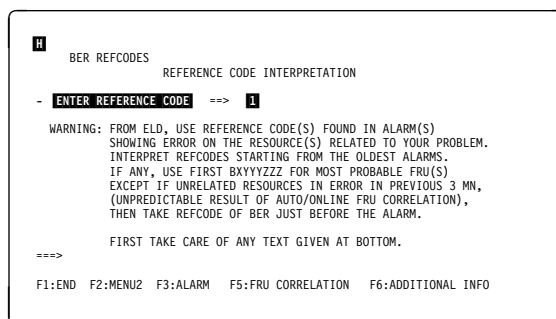

Figure 2-9. Reference Code Interpretation Selection
2. Press **SEND**. Screen **H** is displayed. (See Figure 2-9.)